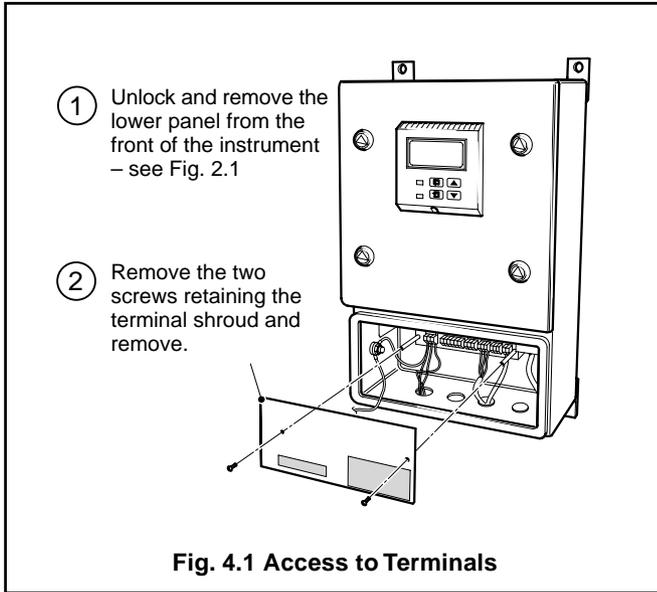

Fig. 4.1 Access to Terminals
4.2.2 Access to Terminals – Fig. 4.1